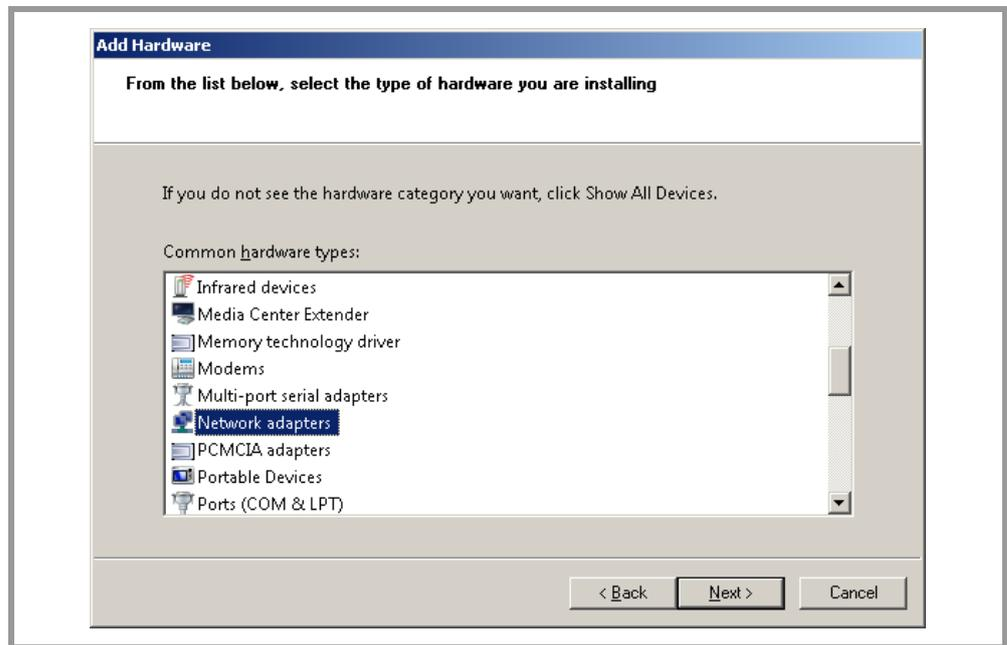

Fig. 2 Selecting hardware type to be installed
3. Scroll down and select the “Network adapters” in the list, as shown in Fig. 2, then press “Next”.